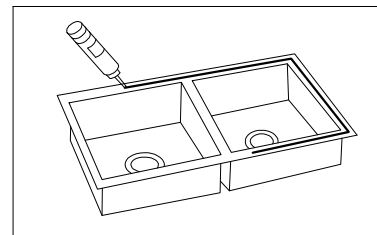

Figure 4
7. Clean sink flange and underside of cutout area of countertop, making sure that the area is smooth and free of grease. **MUST** use 100% silicone for this installation. Apply continuous bead of silicone caulk evenly on top of sink flange. (FIGURE 4) **NEVER** perform this procedure outdoor and under sunlight. If performed under an extremely hot and dry climate, the caulking of the sink frame should be performed by two people at the same time.